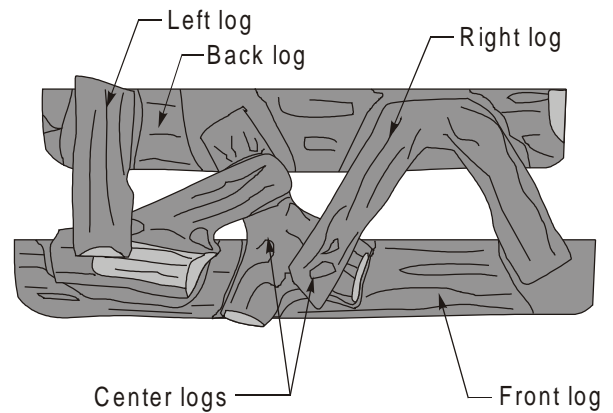
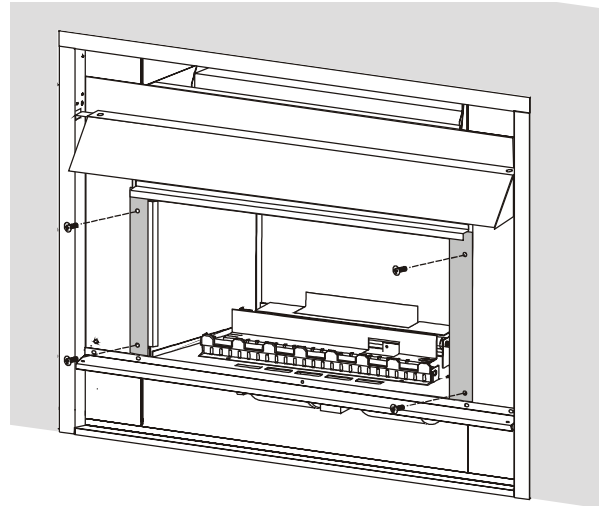

Figure 8b. Proper top log placement (top view).
Figure 23. *Removing and installing the glass door.*
Place the top logs in position as shown in figures 8b and 8c.
- 14. Remove the glass door as shown in Figure 23. Remove the plastic shipping ties and padding from the two bottom logs. Install the top logs as shown in Figure 8b and 8c. Re-install the door.